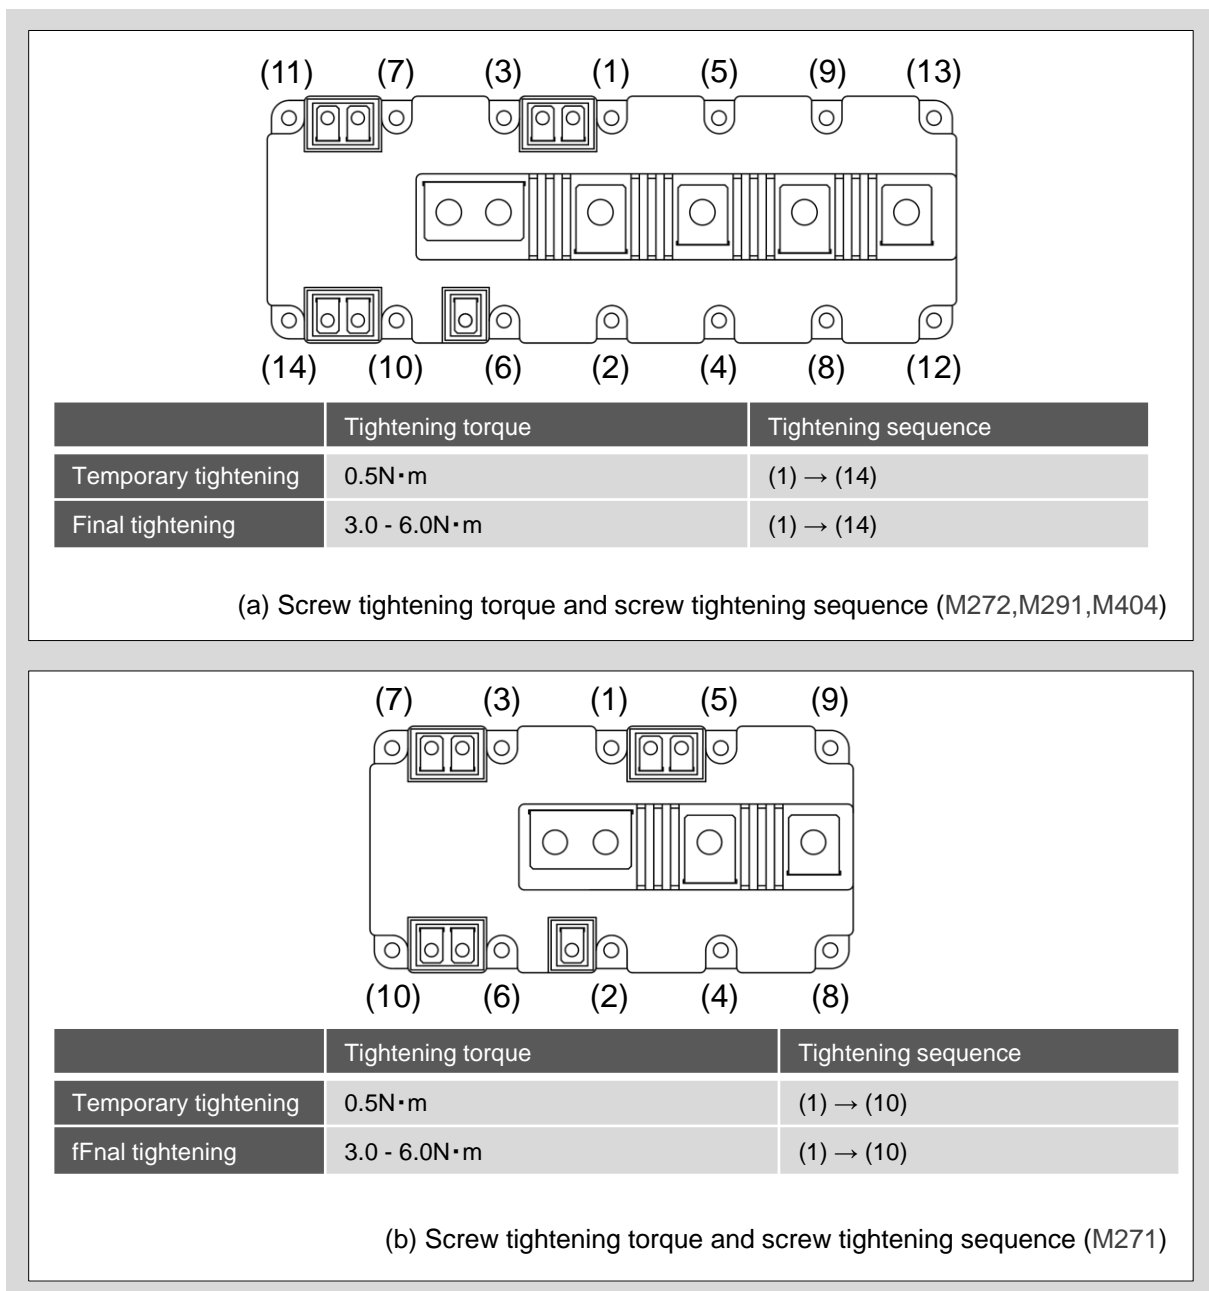

Fig.3. Tightening torque and tightening sequence
1. Perform temporary tightening with $0.5\text{N}\cdot\text{m}$. Fig.3 shows the tightening sequence.